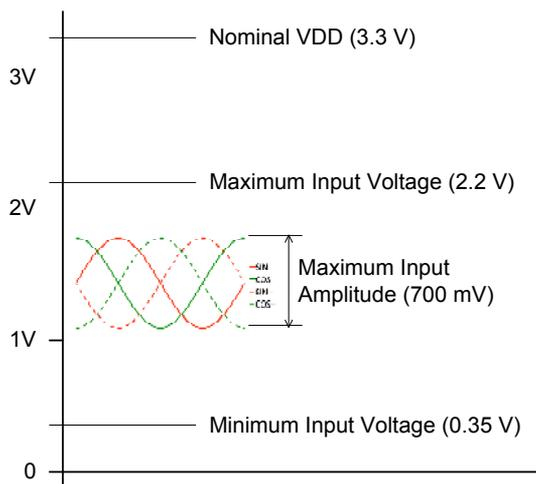
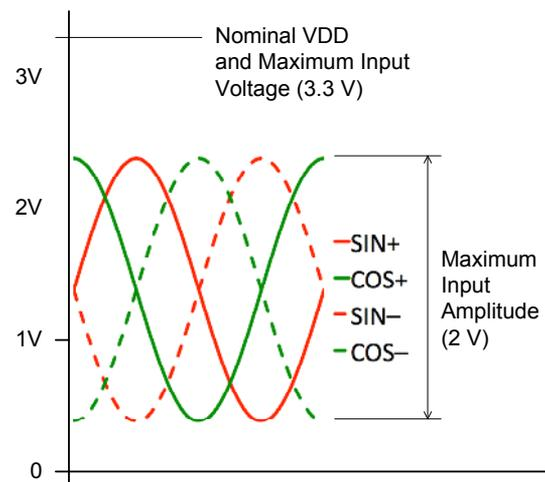

Figure 27: Low Input Range Signals
Figure 28: High Input Range Signals
Low input range accepts 20 – 700 mV peak amplitude differential sin/cos signals (10 – 350 mV peak amplitude per + or – input), as shown in Figure 27.
High input range accepts 65 mV – 2.0 V peak amplitude differential sin/cos signals (32.5 mV – 1.0 V peak amplitude per + or – input) as shown in Figure 28.
The common-mode (DC) voltage of the individual sensor inputs must not exceed the specified common mode range (spec. item 103) or be such that the peaks of the sin/cos signals exceed the maximum input voltages shown in Figure 27 and Figure 28.